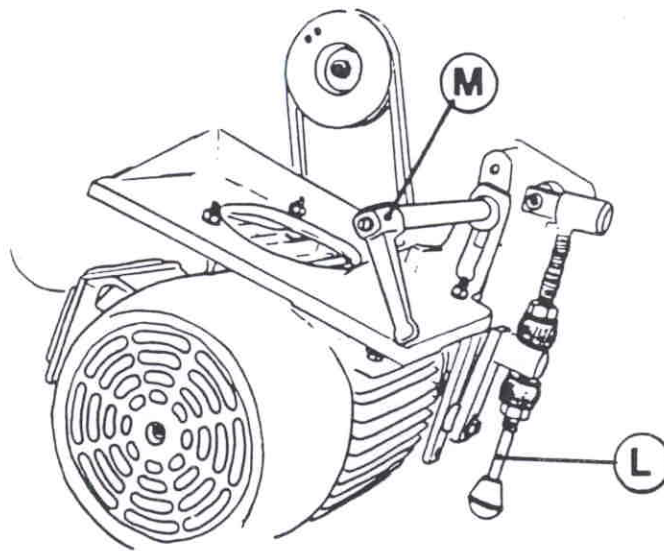

Fig.57
- Loosen handle (M fig.57)
- Loosen the belt by pulling lever (L) upwards, then lock handle (M): the belt is slack and both hands are free
- Loosen handle (M)
- Turn lever (L) down to stretch the belt, then tighten handle (M).